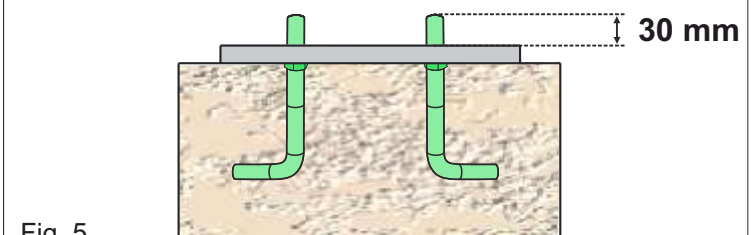

Fig. 5
2.3. Make sure that the plate is perfectly leveled and that the anchor bolts come out of the plate for 30 mm, as shown in Fig. 5